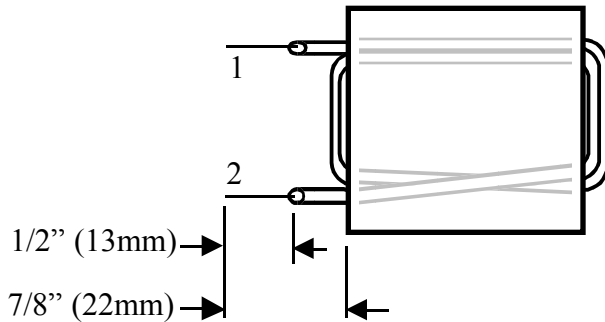

Figure 6-28
- Locate the "binocular" (2-hole) ferrite core for T4. Wind 2 turns of green insulated hookup wire (5", 13 cm) through the core as shown in Figure 6-28. This forms the 1-2 winding.